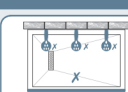

Fig 3 - Walk In - Center Panel
- Never fit a front screen only - See Fig 3